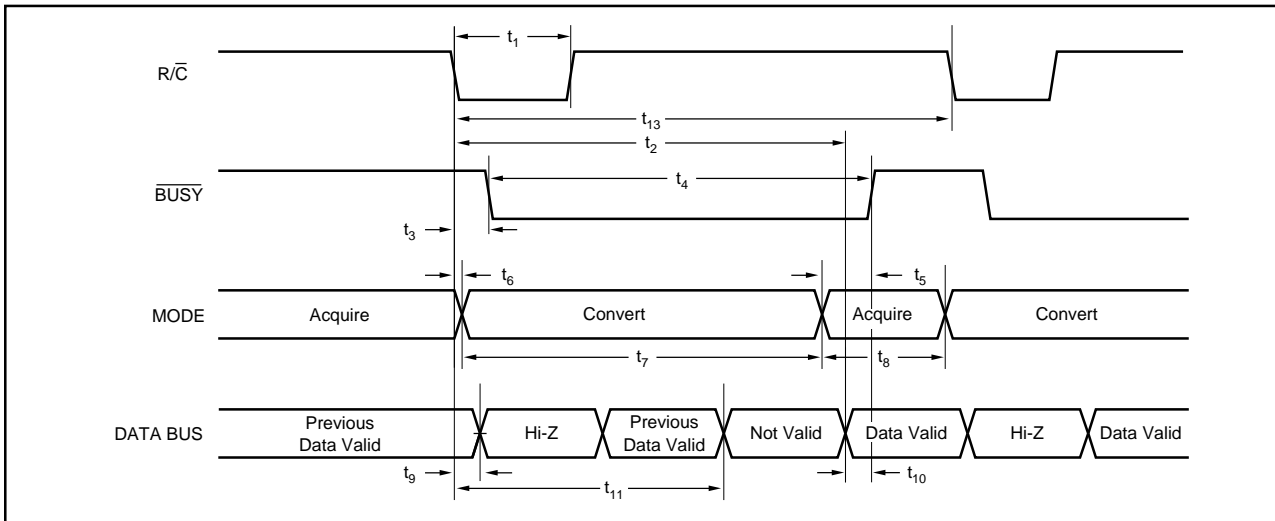

FIGURE 3. Conversion Timing with Outputs Enabled after Conversion (\overline{CS} Tied LOW.)
The ADS7821 will begin tracking the input signal at the end of the conversion. Allowing 10µs between convert commands assures accurate acquisition of a new signal. Refer to Table II for a summary of $\overline{\text{CS}}$, $\overline{\text{R/C}}$, and $\overline{\text{BUSY}}$ states and Figures 3 through 5 for timing diagrams.
NOTE: (1) See Figures 3 and 4 for constraints on data valid from conversion "n-1".
After conversion 'n' is completed and the output registers have been updated, \overline{BUSY} (pin 26) will go HIGH. Valid data from conversion 'n' will be available on D15-D0 (pin 6-13 and 15-22). \overline{BUSY} going HIGH can be used to latch the data. Refer to Table IV and Figures 3 through 5 for timing specifications.
After conversion 'n' has been initiated, valid data from conversion 'n-1' can be read and will be valid up to 5 μ s after the start of conversion 'n'. Do not attempt to read data from 5 μ s after the start of conversion 'n' until \overline{BUSY} (pin 26) goes HIGH; this may result in reading invalid data. Refer to Table IV and Figures 3 through 5 for timing specifications.
The number of control lines can be reduced by tying \overline{CS} LOW while using R/\overline{C} to initiate conversions and activate the output mode of the converter. See Figure 3.